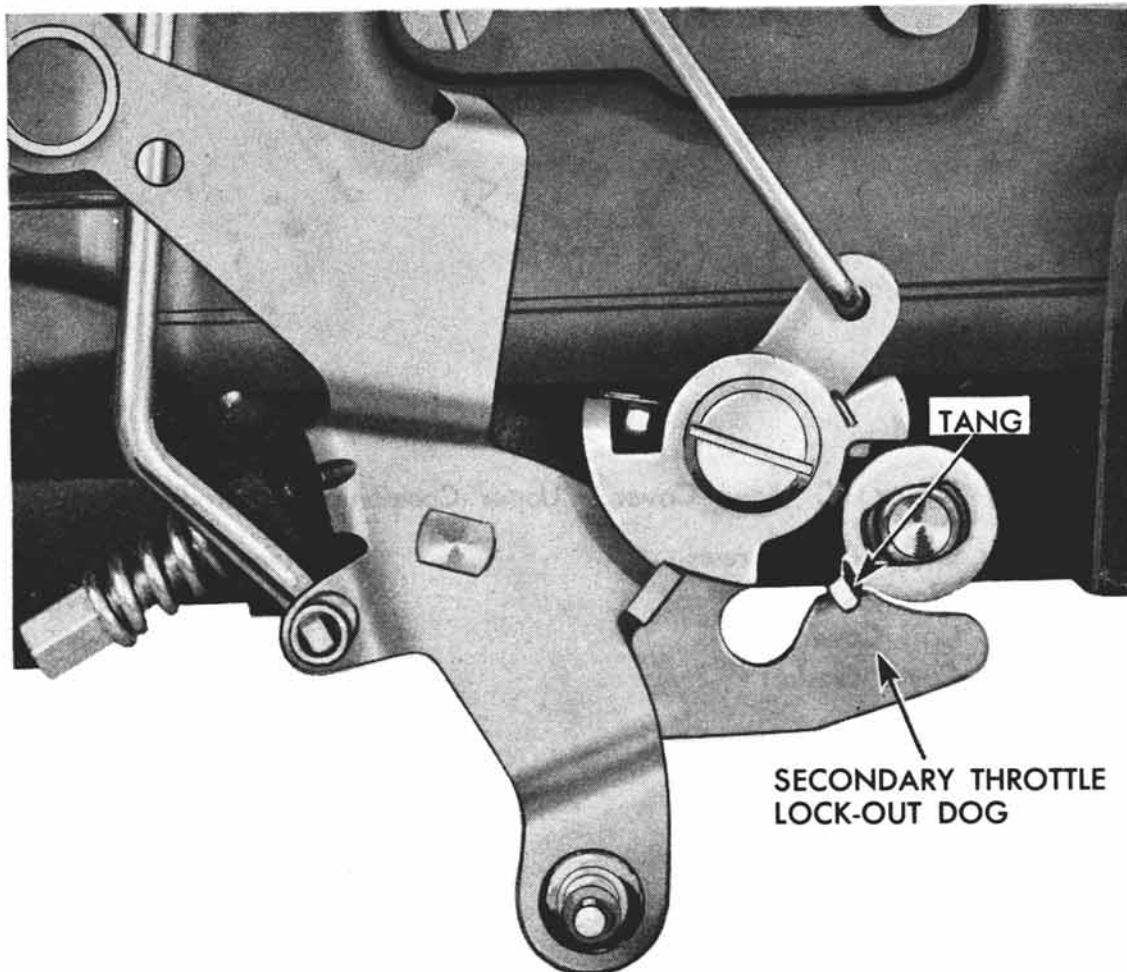

Fig. 20-C Secondary Throttle Lockout Adjustment
2. Close choke valve and hold shut, then release throttle valves. Tang on secondary throttle shaft should freely engage notch in secondary throttle lockout dog (Fig. 20-C).